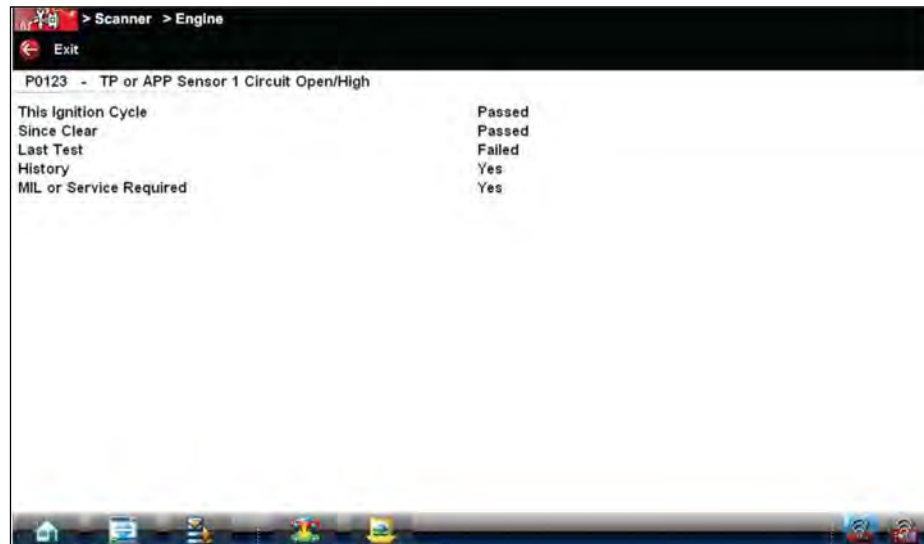

Figure 5-24 Sample DTC status report
4. Tap the virtual keyboard **Return** key once all the code characters are entered. The DTC status report displays (Figure 5-24).